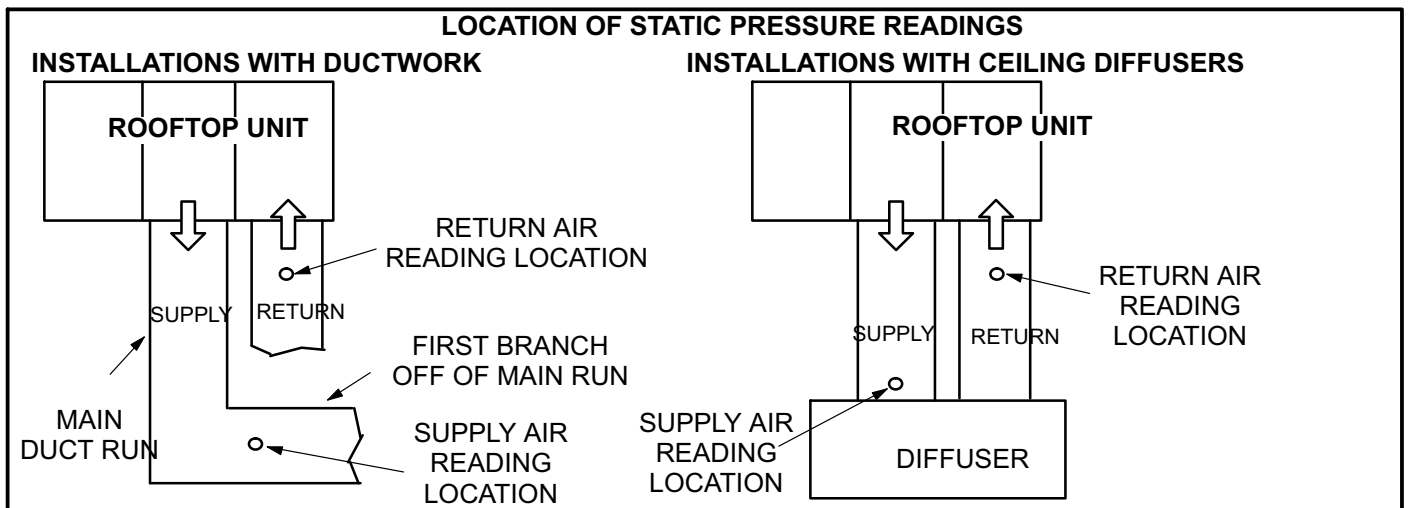

FIGURE 6
- 3- With all access panels in place, measure static pressure external to unit (from supply to return). Blower performance data is based on static pressure readings taken in locations shown in figure 6.